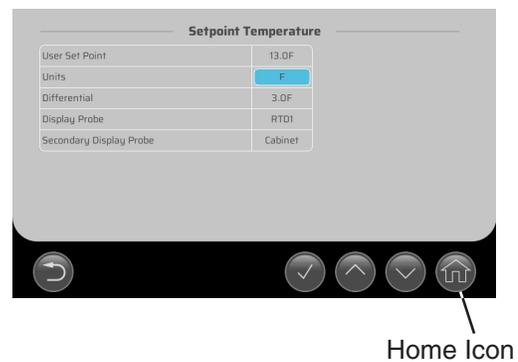

Fig. 22
- 6) Press the home icon to return to the touchscreen setup view. See Fig. 22. The touchscreen setup view returns to touchscreen normal view after 1 min. See Fig. 23. Note: If an alarm is present (alarm icon lit) touchscreen remains in setup view until alarm is cleared.